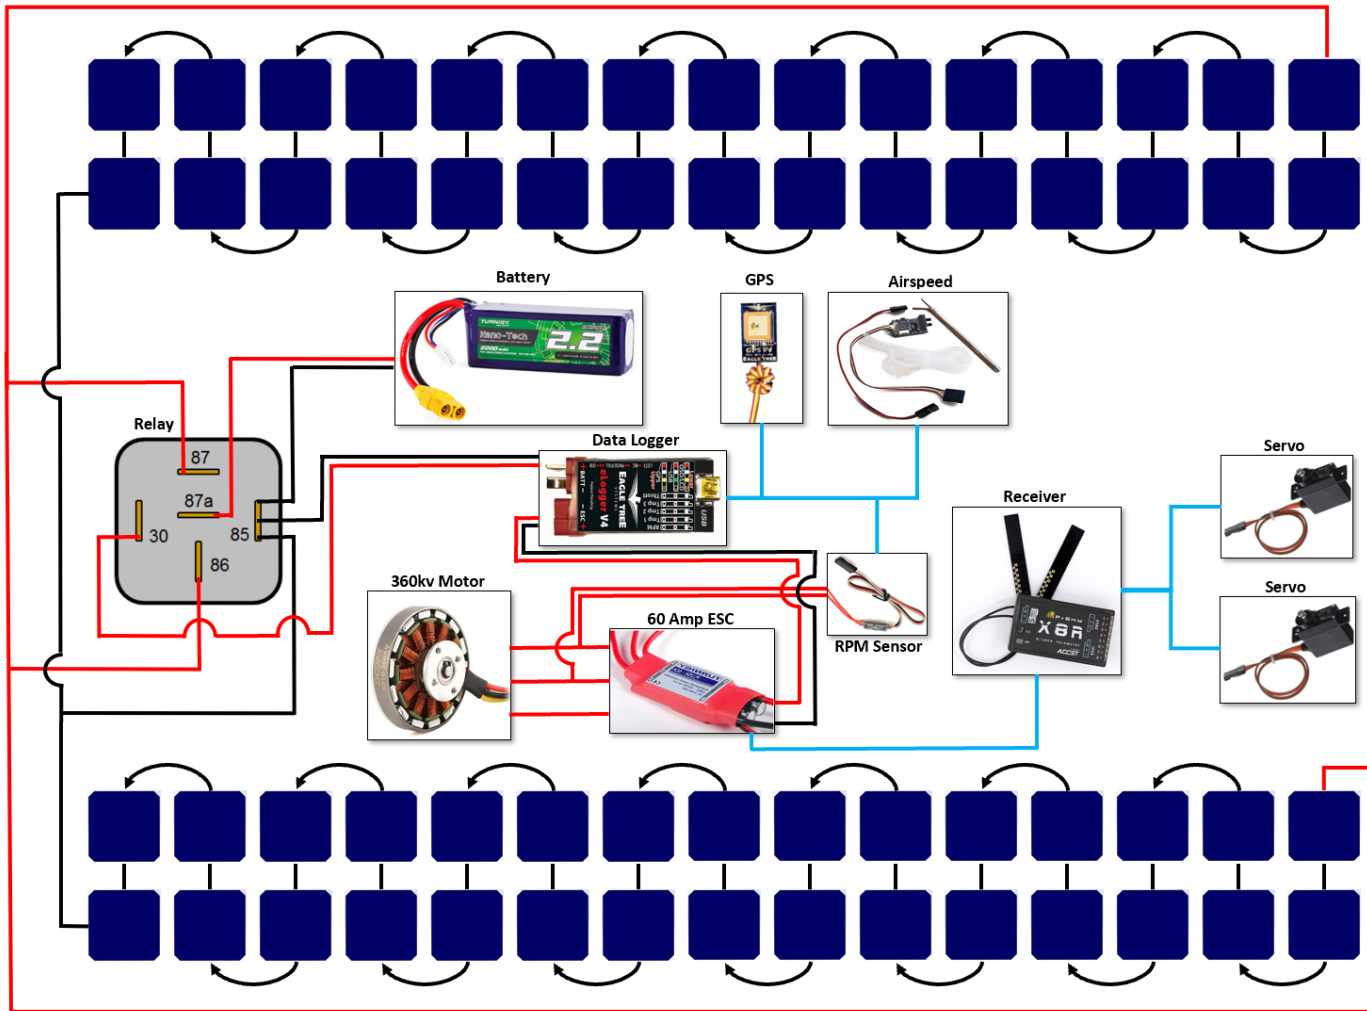

Figure 15 Electronics Setup 2
5. Connect all wiring connections as shown in Figure 15. More detailed views will be added in Appendix G.